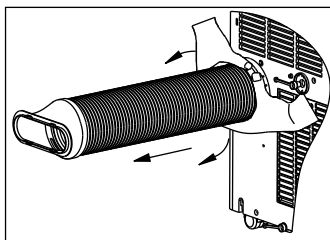

Fig. 25
- Unscrew the exhaust hose and pull out for uninstallation (Fig. 25).